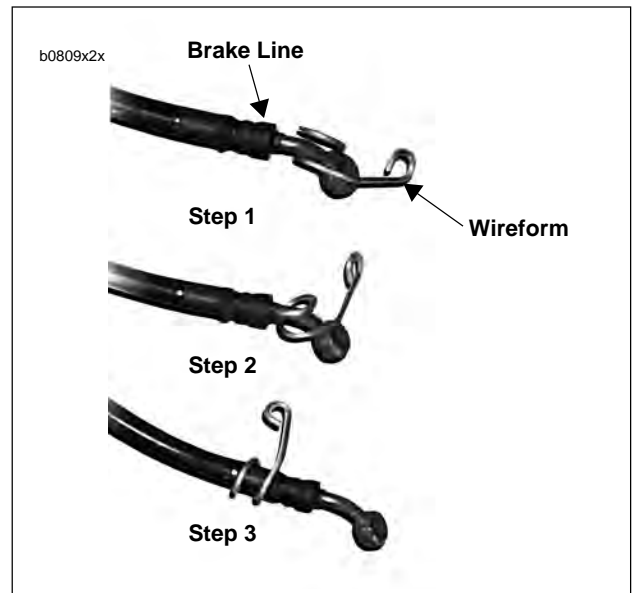

Figure 2-48. Wireform Installation
1. See Figure 2-48. Install wireform to rear brake line as shown in figure.